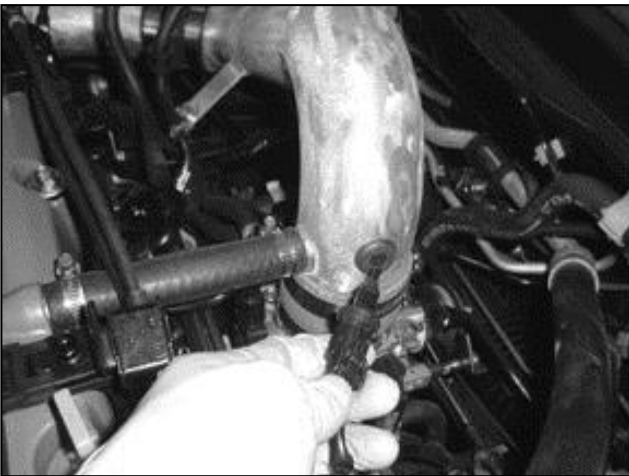

Fig.11
- h. Install the supplied grommet into the IAT sensor hole in the AEM® primary intake pipe. Install the IAT sensor into the grommet and plug in the IAT sensor connector. **(Fig. 11)**